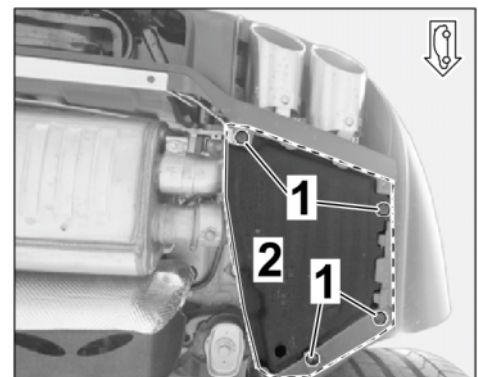

Figure 4
- 1.3 Remove rear underbody cover (left / right ⇒ *Figure 4*). ⇒ *Workshop Manual '519419 Remove and install rear underbody cover'*